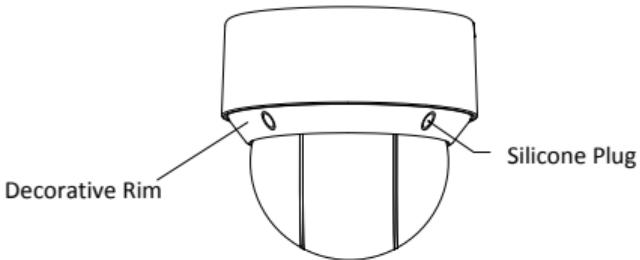

Figure 2-5 Remove the Silicone Plugs
1. Remove the four silicone plugs on the decorative rim as shown in Figure 2-5, and you can see four flange screws in the decorative rim.